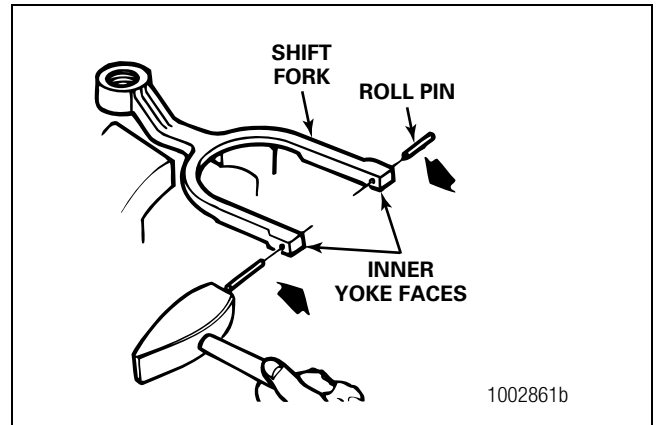

Figure 6.26
1. On carrier models with shift fork roll pins, install the two roll pins into the ends of the shift fork. Tap the pins into position until they are level with the inner yoke face. Figure 6.26. Do not install completely at this time.